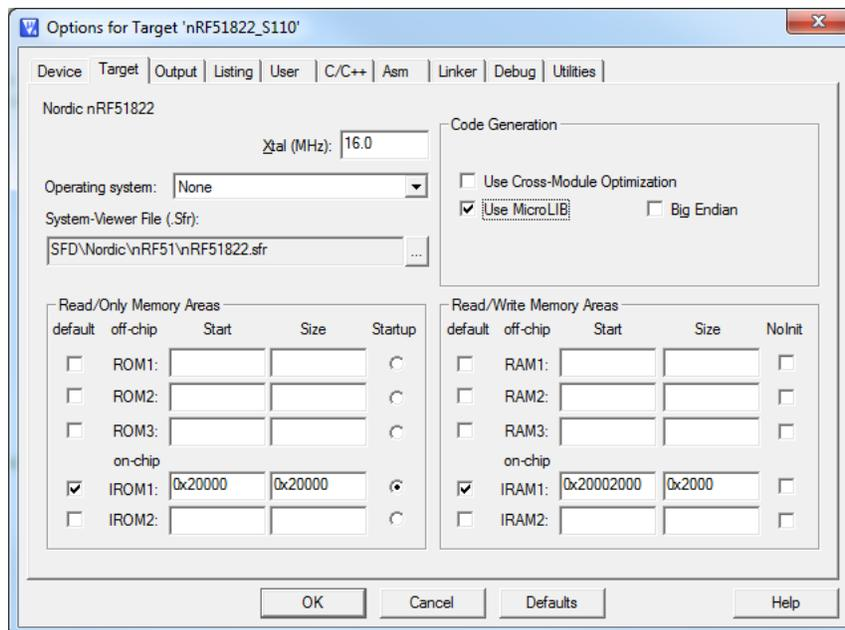

Figure 22 Memory layout with example SoftDevice
6. In **Read/Write Memory Areas**, define values for **Start** and **Size** as seen in *Figure 22* on page 31.